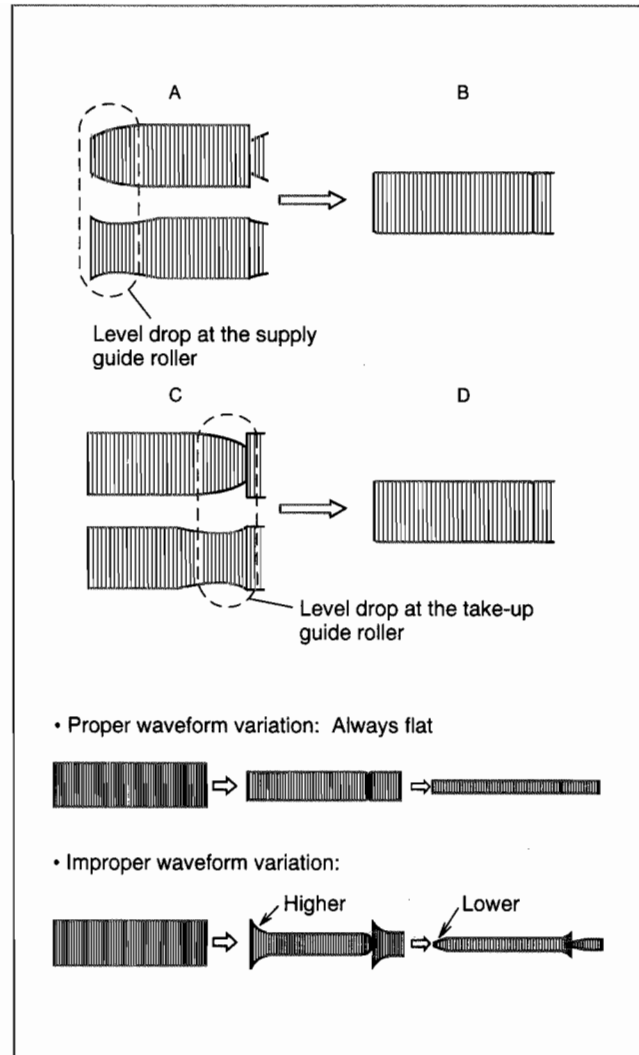

Fig. 2-3-3
- (5) Reduce the FM waveform while pressing the channel buttons (▲, ▼) during playback. If a drop in level is found on the left side, turn the guide roller of the pole base assembly (supply side) with the roller driver (PTU94002) to make the FM waveform linear. If a drop in level is on the right side, likewise turn the guide roller of the pole base assembly (take-up side) with the guide roller to make it linear. (See Fig.2-3-3.)
- (6) Then play MHPE-L and make sure that the FM waveform varies in parallel and linearly with the tracking operation. When required, perform fine-adjustment of the guide roller of the pole base assembly (supply or take-up side).
- (7) Unload the cassette tape once, play the alignment tape MHPE-L again and confirm the FM waveform.